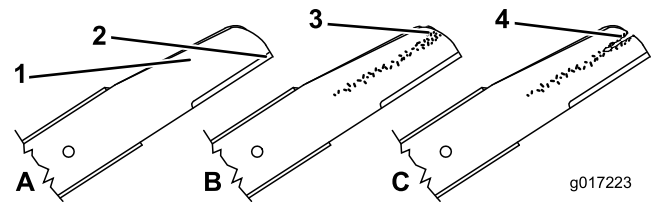

Figure 32
1. Inspect the cutting edges (Figure 32). If the edges are not sharp or have nicks, remove the blades and have them sharpened or replace them.
2. Inspect the blades themselves, especially the curved area (Figure 32). If you notice any damage, wear, or a slot forming in this area, immediately replace them with new blades.